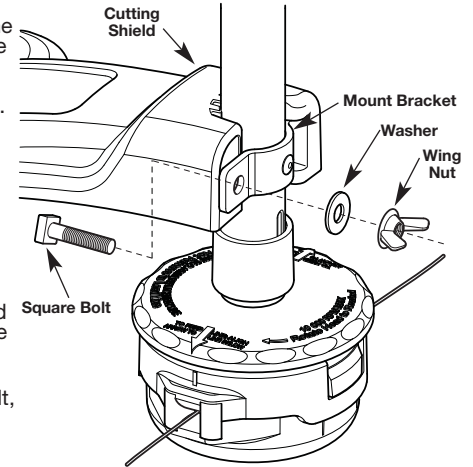

Fig. 1
1. Place the cutting attachment shield onto the shaft housing. Be sure the guard mounting bracket slides into the slot on the edge of the cutting shield. Rotate the shield into place, counterclockwise (Fig. 1). The holes in the guard mounting bracket and cutting attachment shield will line up.
2. From inside the cutting attachment shield, push the square bolt through the hole until the threaded end protrudes through the guard mounting bracket (Fig. 1).